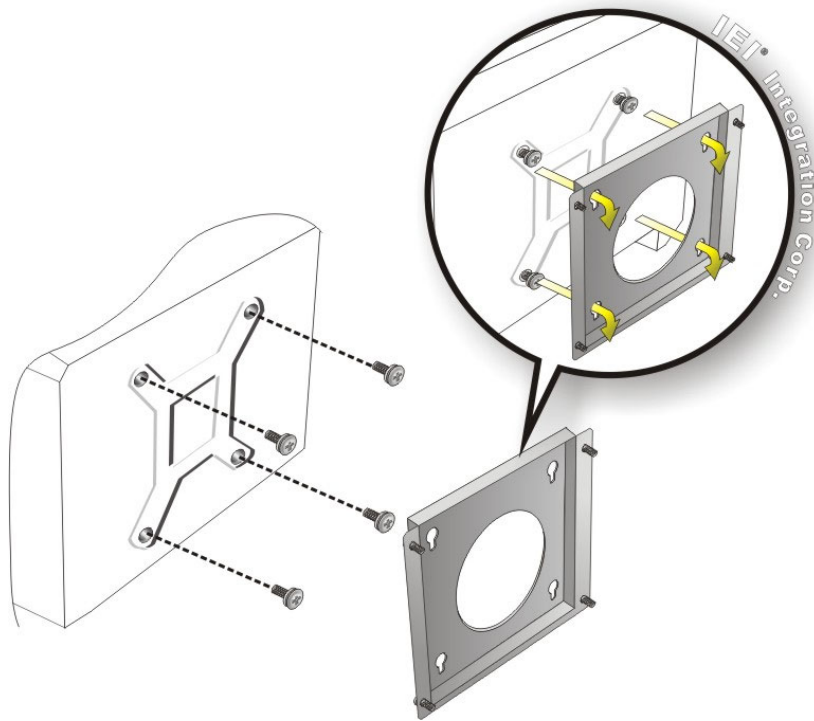

Figure 3-27: Mount the Chassis
Step 6: Insert the four monitor mounting screws provided in the wall mounting kit into the four screw holes on the rear panel of the monitor and tighten until the screw shank is secured against the rear panel (**Figure 3-27**).
Step 8: Carefully insert the screws through the holes and gently pull the monitor downwards until the monitor rests securely in the slotted holes (**Figure 3-27**). Ensure that all four of the mounting screws fit snugly into their respective slotted holes.